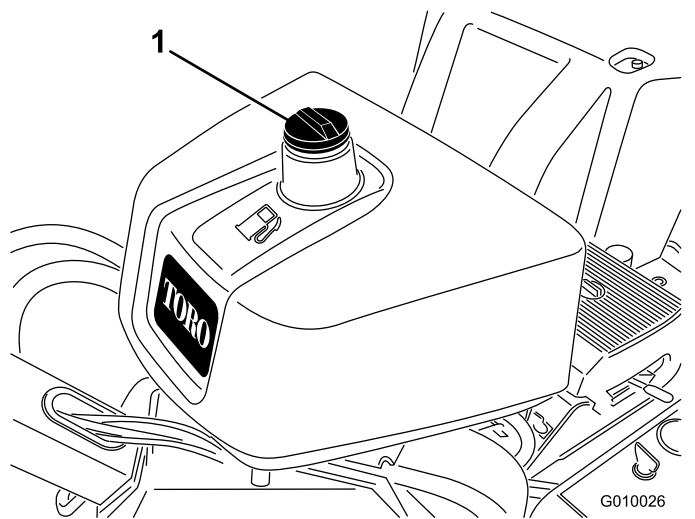

Figure 16
2. Clean around the fuel-tank cap and remove it (Figure 16).